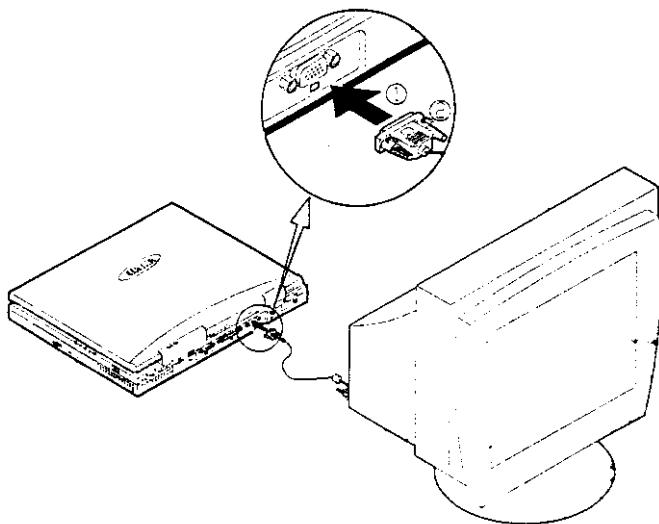

Figure 2-27
3. Tighten the screws that fasten the cable to the CRT port (Figure 2-27).